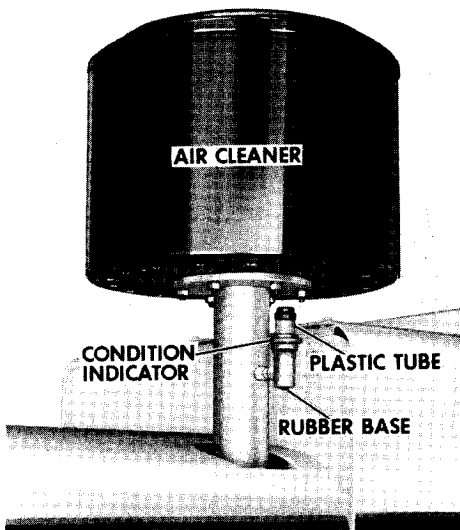

Figure 23
**AIR CLEANER CONDITION INDICATOR** - Figure 23. When red appears inside of plastic tube, air cleaner must be serviced. To reset indicator press rubber base.